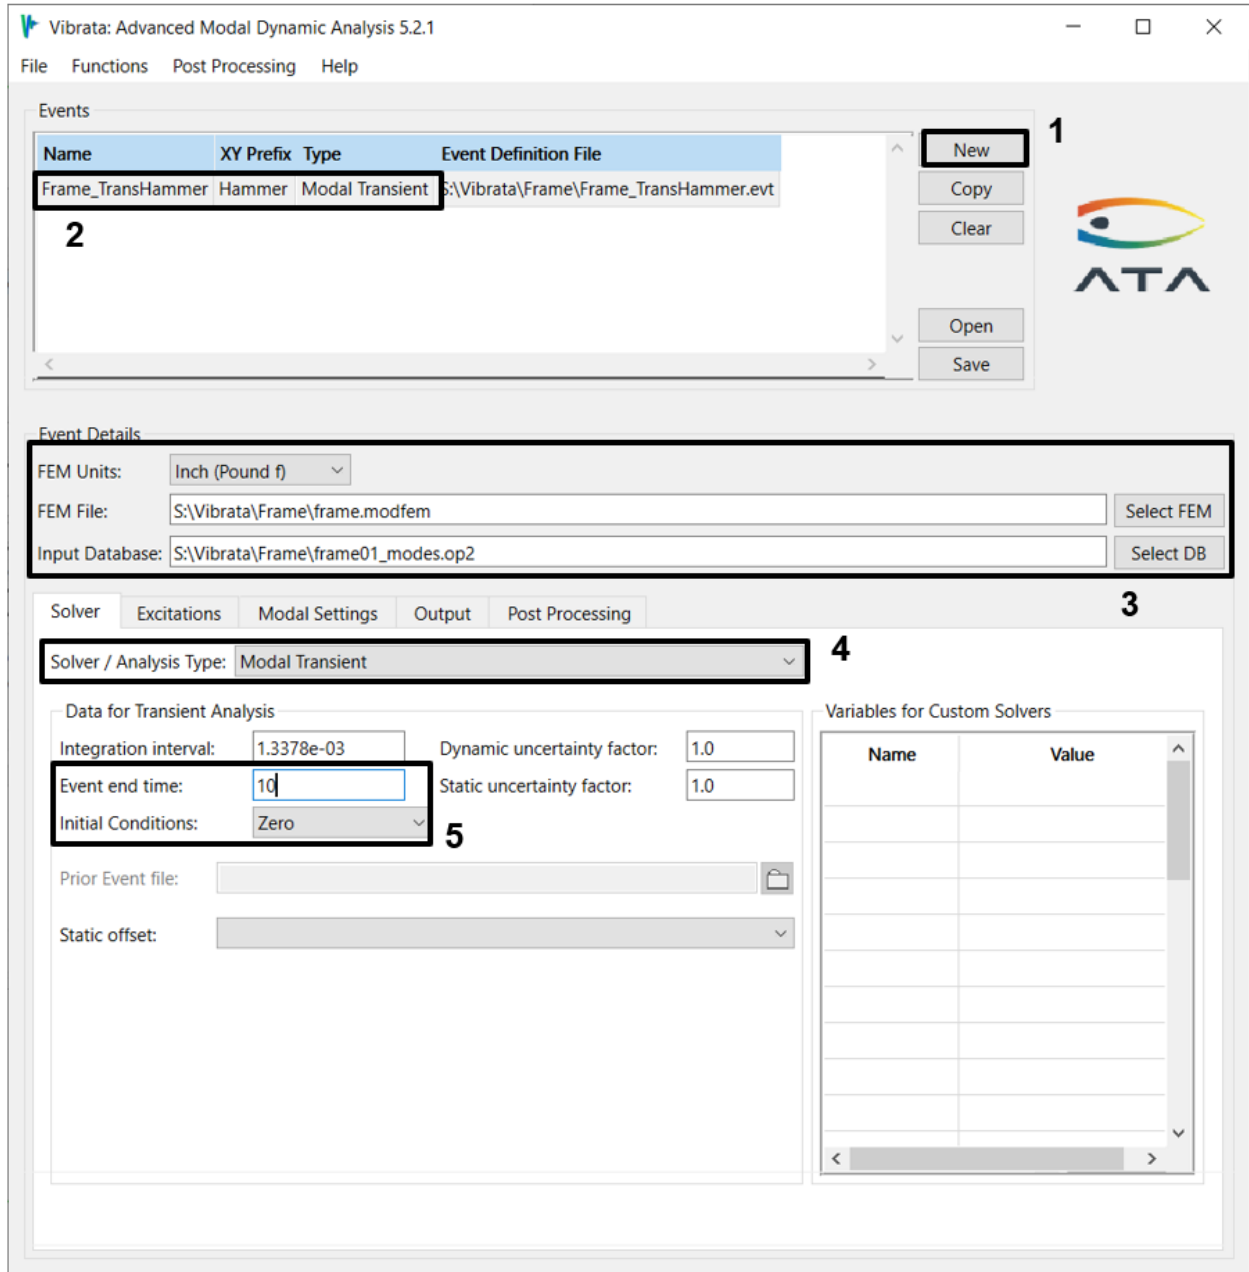

Figure 4-112. Solver setup for frame model transient analysis.
2. In the Event Manager, set up a new transient event and select the frame's modfem file and the OP2 file "frame01\_modes.op2". Set the event end time to 10 seconds and its initial conditions to Zero, as shown in Figure 4-112. As always, be sure to assign a recognizable event name.